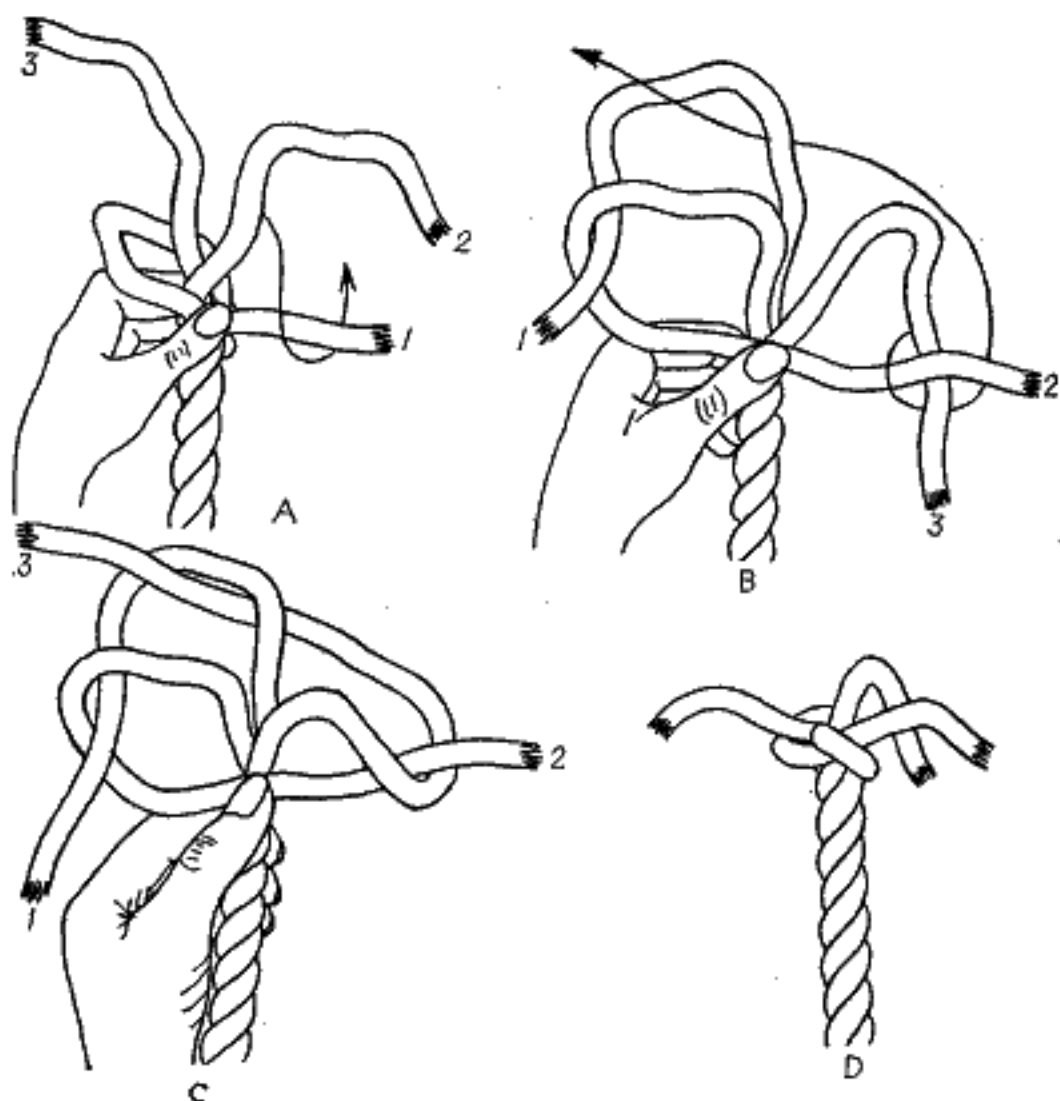

FIG. 322.—The wall knot.
2. Bring strand 1 halfway around and across in front of the rope, holding it in place with the left thumb (see Fig. 322).